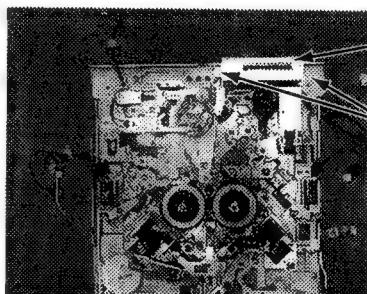

Fig. M-1
- Fig. M-1 Unscrew 2 screws (E).